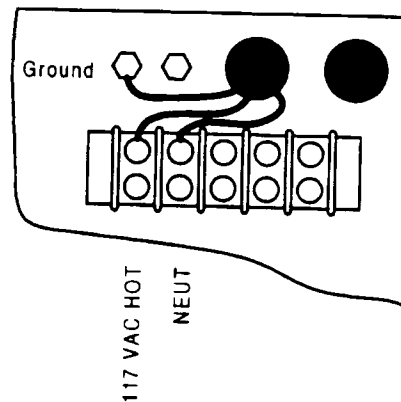

FIGURE 2.2B
- Connect the power wires to the high voltage terminal strip as shown in figure 2.2B.